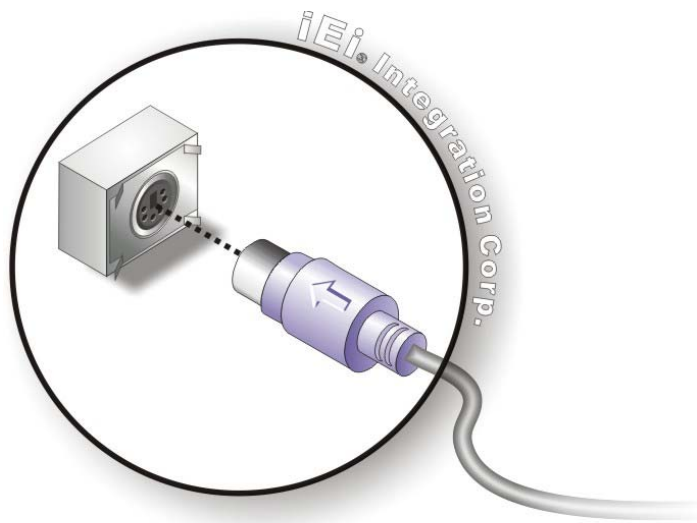

Figure 4-16: PS/2 Keyboard/Mouse Connection
- Step 3:** **Insert the PS/2 connector** Once the connectors are properly aligned, insert the PS/2 connector from the keyboard/mouse into the PS/2 connector on the IMBA-C2160. See **Figure 4-16**.